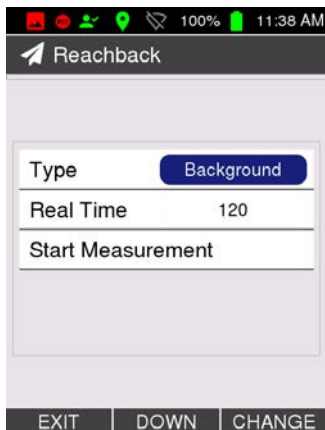

Figure 87: Settings for a new measurement
2. Choose the type of measurement (background, known source, or unknown source, Fig. 87, p. 86).